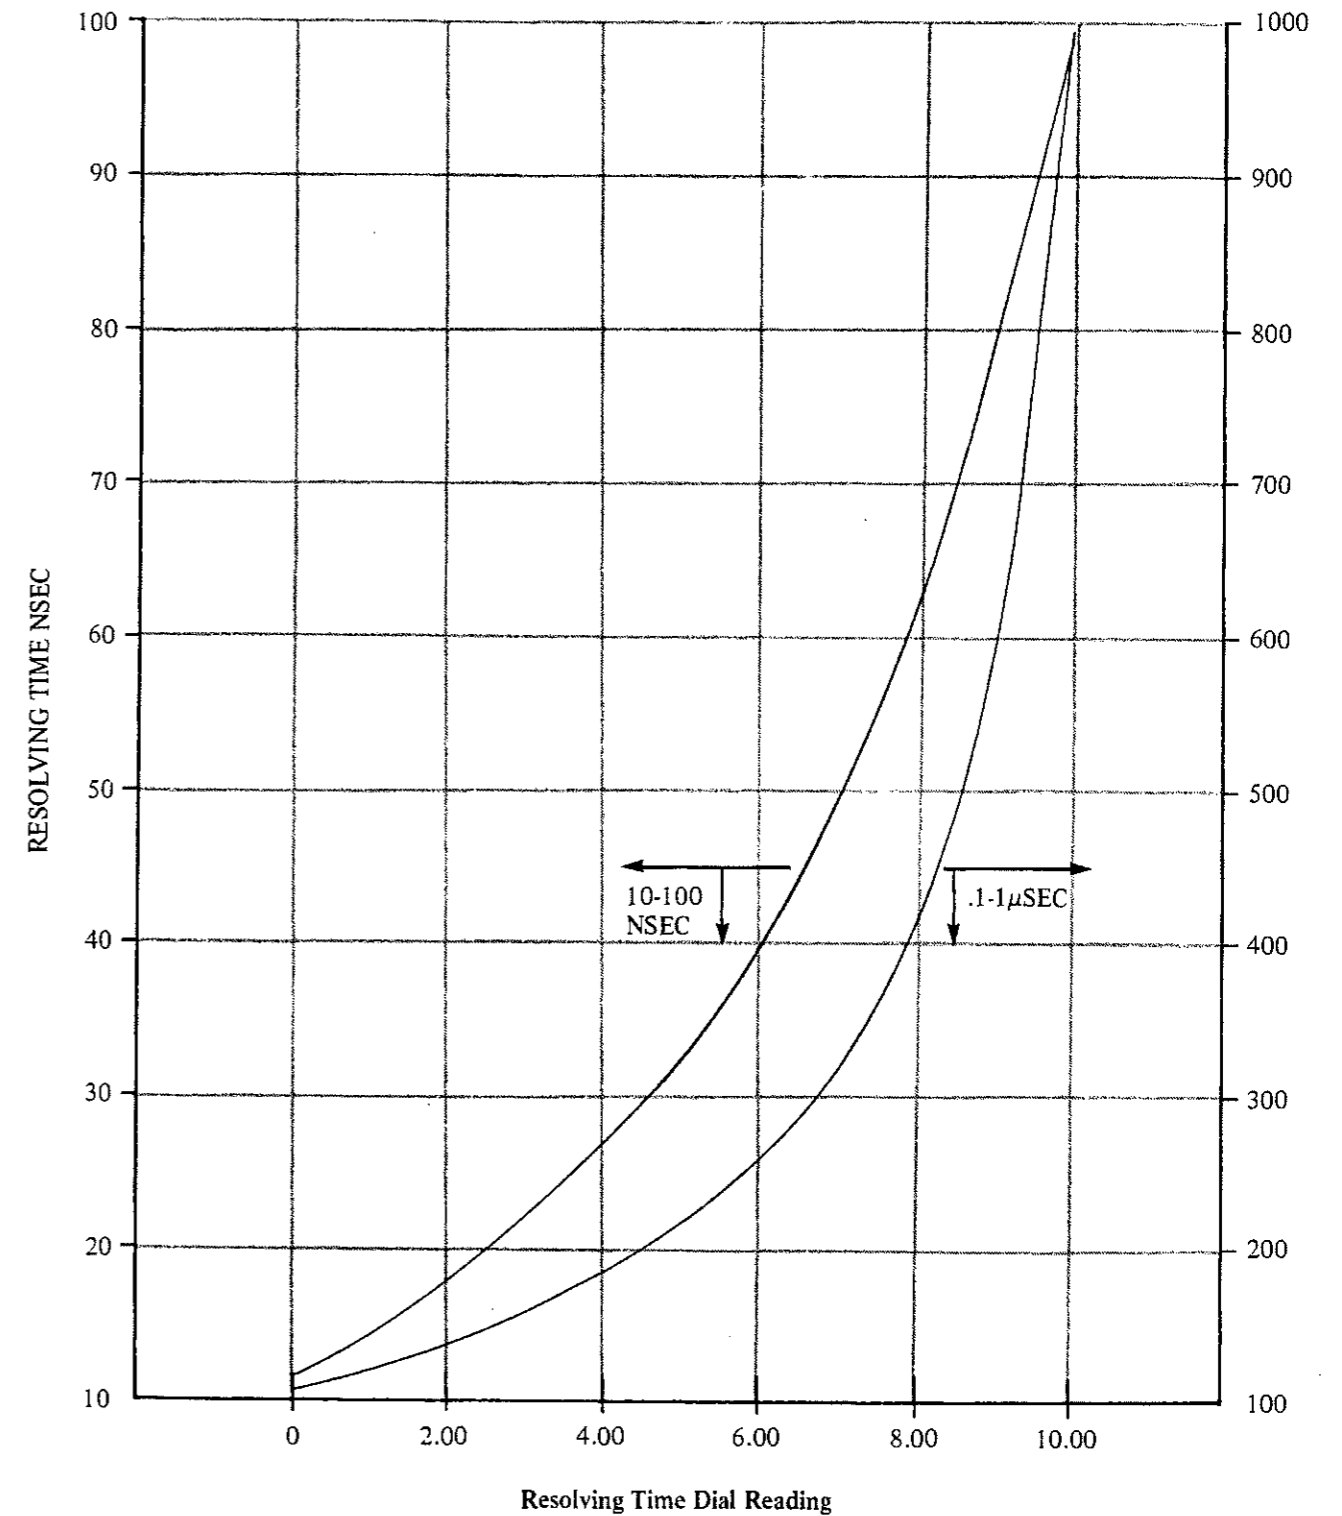

Figure 4-2. Dial Resolving Time vs. Actual Resolving Time.
5. Check that an output is generated when the input signals occur within the RESOLVING TIME set on the RESOLVING TIME control. Vary the delay and RESOLVING TIME controls and check them at different settings. Refer to Figure 4-2 for a typical linearity/accuracy curve of actual resolving time vs. indicated time.